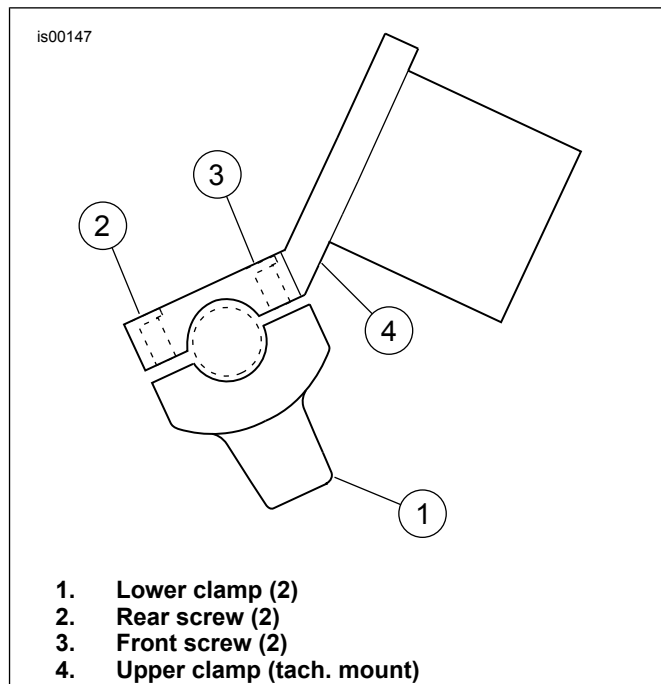

Figure 2. Handlebar Clamp
- See Figure 2. Loosen four screws (2 and 3) of handlebar upper clamp (4).
- Tighten front screws (3) to 12-15 ft-lbs (16-20 Nm) torque.
- Tighten rear screws (2) to 12-15 ft-lbs (16-20 Nm) torque. A slight gap between upper and lower clamps should exist at front and rear.